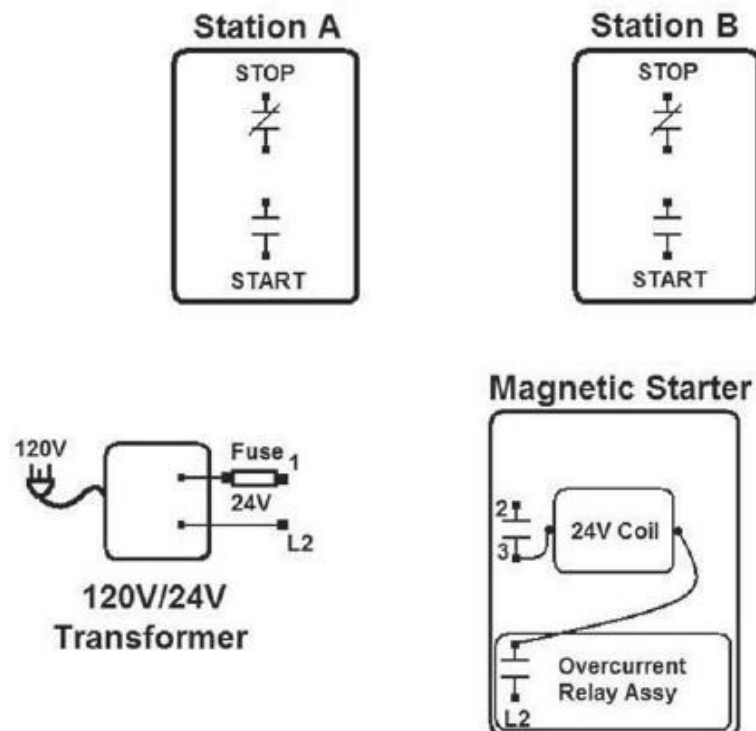

Figure 1 ■ Stop-Start Station and Magnetic Starter Physical Layout
1. Mount the stop-start stations and the magnetic starter to the project board, like the layout shown in Figure 1.